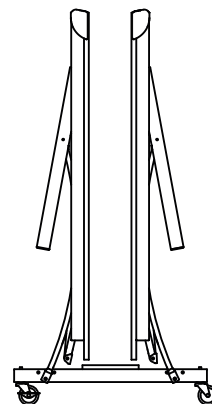

Figure 9
4. Raise other table half in the same manner as shown in **Figure 9**.